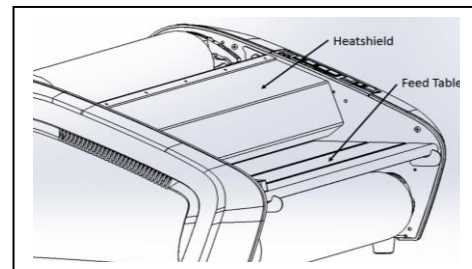

Figure 4
- HEAT SHIELD:** (figure 4) Prevents inadvertent contact with the heat rollers. The HEAT SHIELD must be lowered for the RUN operation to work.
- FEED TABLE:** (figure 4) The Feed Table is used to position items for lamination. Feed table must be installed and latched for laminator to operate.